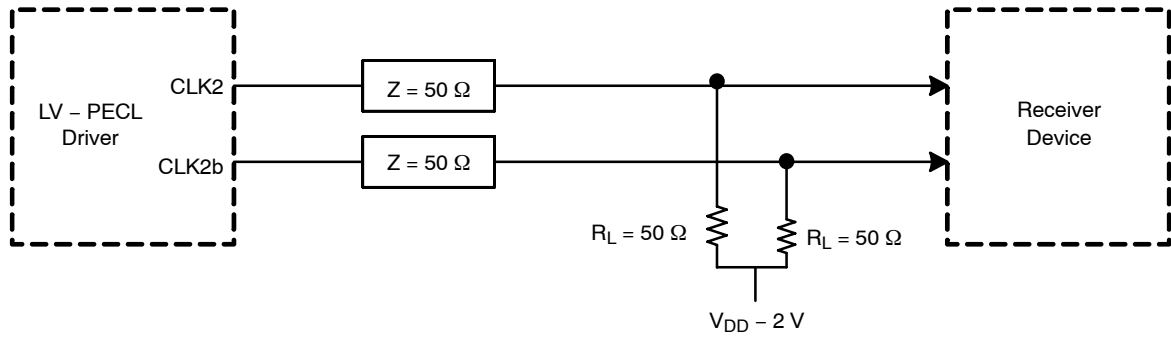

Figure 2. Typical Termination for Output Driver for Device Evaluation
| t_R | Output Rise Time (Note 5) (Measured from 20% to 80%. Figure 2) LV PECL Output | | 340 | 700 | ps |
| t_F | Output Fall Time (Note 5) (Measured from 20% to 80%. Figure 2) LV PECL Output | | 340 | 700 | ps |
5. Measurement taken with outputs terminated with 50Ω to $V_{DD} - 2 \text{ V}$. See Figure 2.